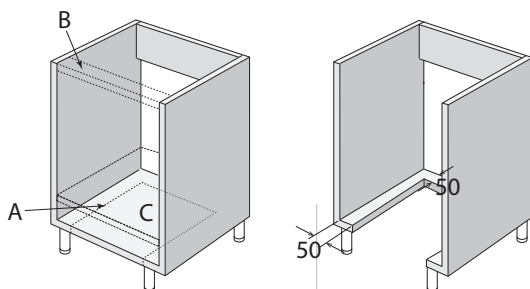

Fig. 2
- Remove the both upper shelf (A) and cross member support (B) on the oven housing unit as shown in Fig 2 Cut the bottom panel (C) of the oven housing as shown.